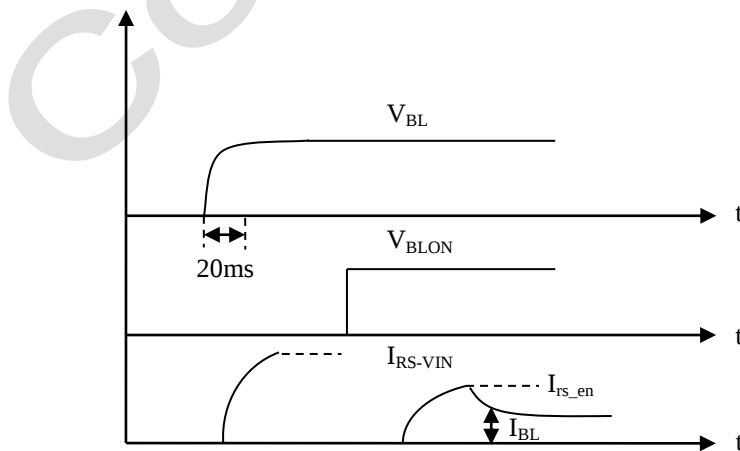

Fig. 3.4 The timing sequence diagram of inrush current measurement
(1) Dimming ratio = 100% (Max.) ($T_A = 25 \pm 5 \text{ }^{\circ}\text{C}$, Turn on for 45minutes).
(2) The measurement condition: V_{BL} rising time is 20 ms. (V_{BL} from 10% ~ 90%), the sequence diagram is shown as Fig. 3.4.
(3) Normal: 0 ~ 0.8V; Abnormal: Open collector.